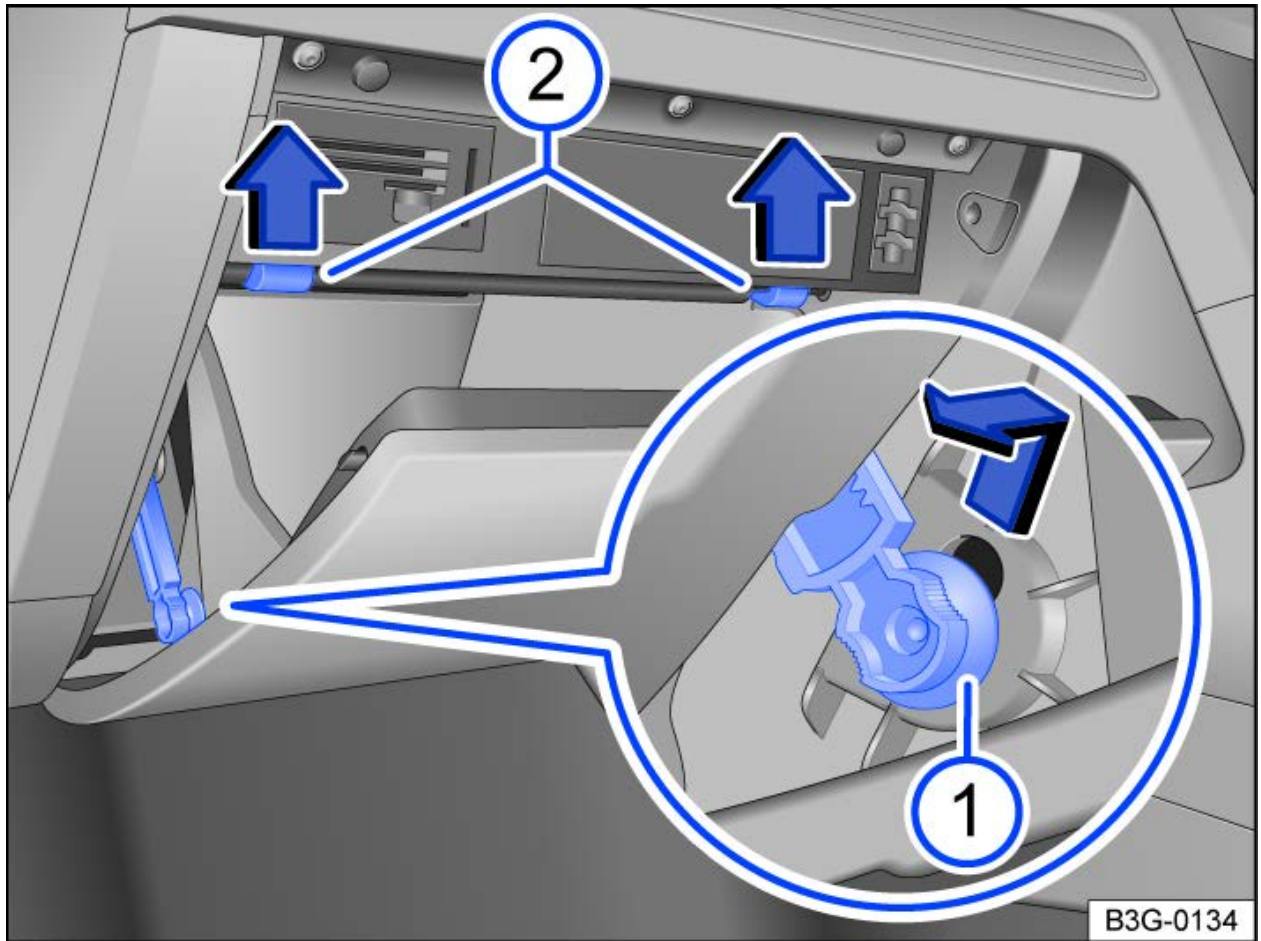

Fig. 2 Fuse box cover in the instrument panel: right-hand drive vehicles, on the front passenger side.
- Push the damper element up and into the opening in the bracket, before pulling it out sideways → *fig. 2* (1).
- Push the catches up in the direction of the arrow while at the same time opening the storage compartment further → *fig. 2* (2).
- To *install*: move the storage compartment into position. Fit the damper element into the opening in the bracket and push it down until you hear it click into place. Push the storage compartment carefully forwards past the resistance of the stop pin → *fig. 2* (2).